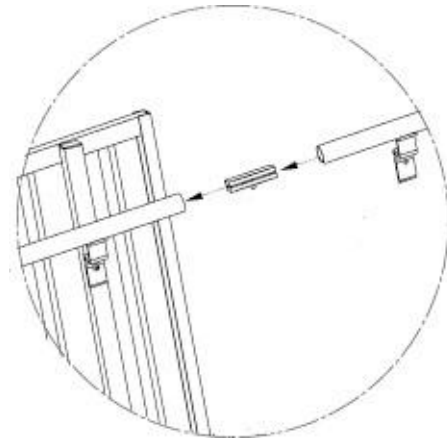

FIG. 38
- 7.1.4 Install 4" joiner assembly to uphill end of the previously installed handrail section (FIG. 38), passing the next handrail section over the joiner assembly, then secure to guard in same manner as previous handrail.